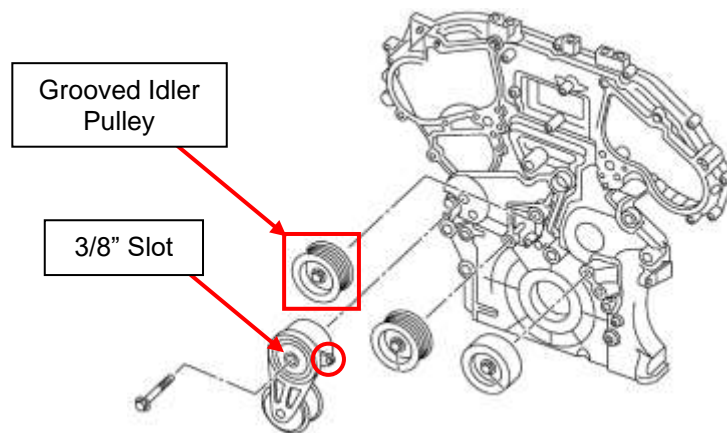

Figure 10
39. Using a 3/8" ratchet, release tension from the Tensioner Pulley on the front of the engine, then place a M6 bolt/Allen key in the slot to hold the Tensioner in place. The 3/8" slot on the Tensioner is shown with an arrow below and the slot for the bolt is circled. *Figure 10.*
41. Remove (1) one Grooved Idler Pulley on the front of the engine, shown above in *Figure 10* with a box. It is the highest center pulley on the engine.